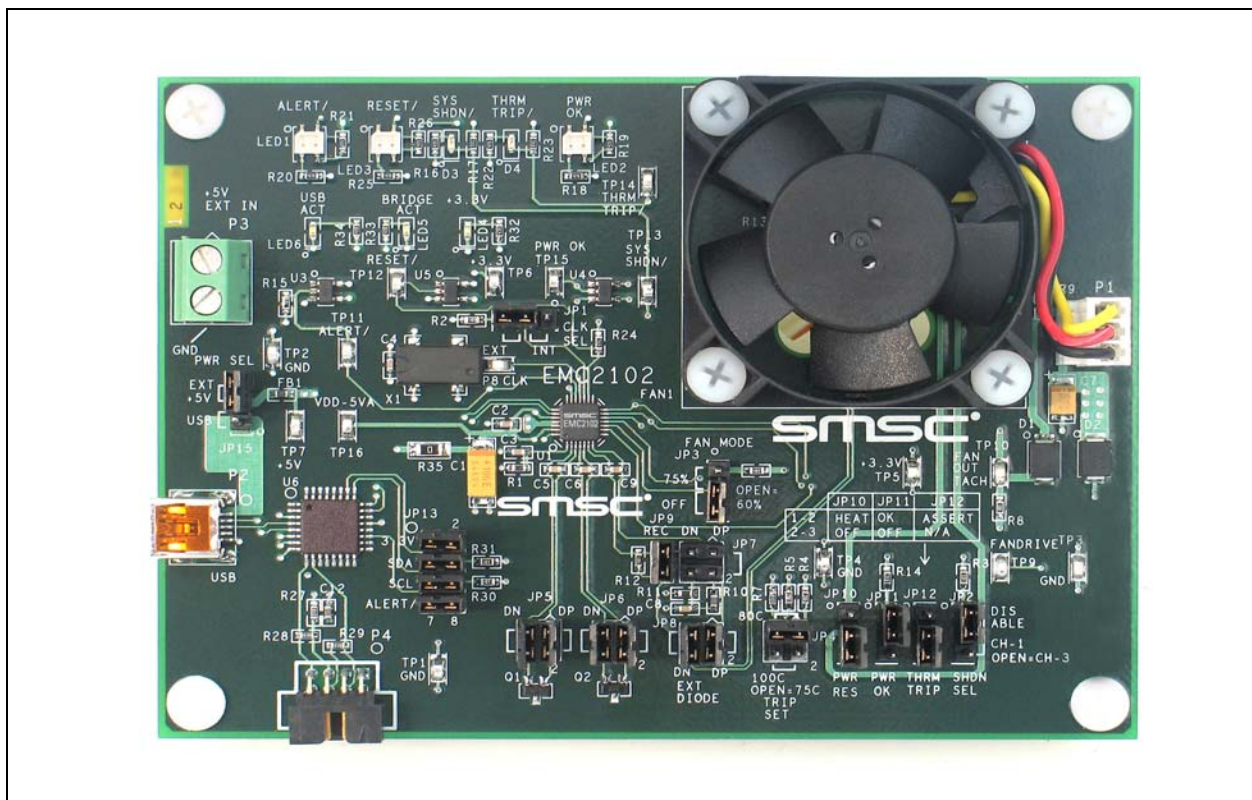

Figure 4.2 EVB-EMC2102 Board
| Figure 4.2  | EVB-EMC2102 Board . . . . .                                 | 7  |
- An EMC2102 evaluation board (EVB-EMC2102) with on-board 5V DC fan (Figure 4.2)